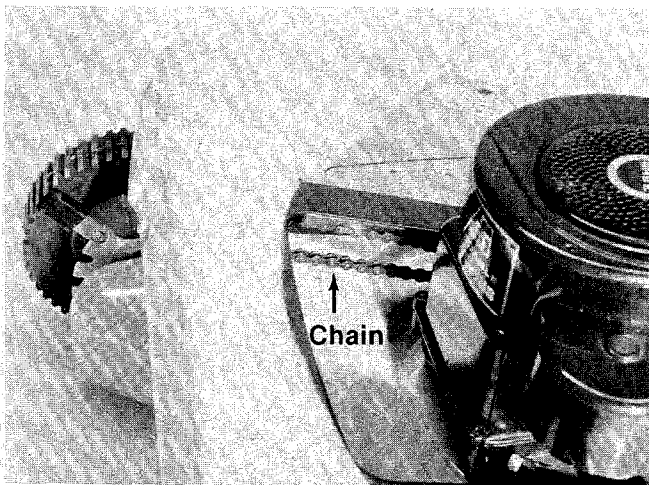

FIGURE 18.
**Chain**—The chain should be lubricated periodically with a few drops of light oil to prevent any rust or binding. See figure 18. Use very little or no oil if unit is being used in a dry or dusty area.